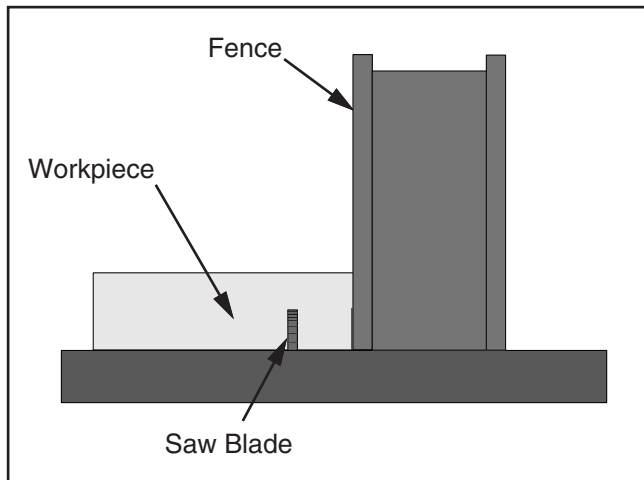

Figure 46. Rabbet cutting with a standard blade.
4. Adjust the fence so the blade is aligned with the inside of your rabbet channel as shown in **Figure 46**.